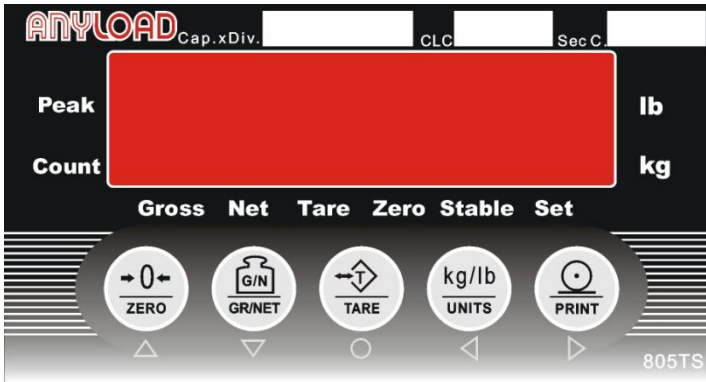

Fig. 4.1 Front Panel Configuration for 805TS
Fig.4.1 and Fig.4.2 shows indicator display, LED/LCD indicator lights and keypad configuration. Signs at the bottom of the keypad are for configuration operation use (refer to Section 9 for details).
▶, ◀ are for moving forward and backward while ▲, ▼ are for increasing and decreasing the digits. After done with Input Item Code, press the ○ key if the stored Item Code is not 0. Item Code of the current count items is then stored and the keypad returns to normal operating functions as shown in Fig. 4.1 (805TS series) and Fig.4.2 (805BS series).
(5) On the Weighing mode, keypad functions are according in Fig.4.1 (805TS and Fig.4.2 (805BS series).